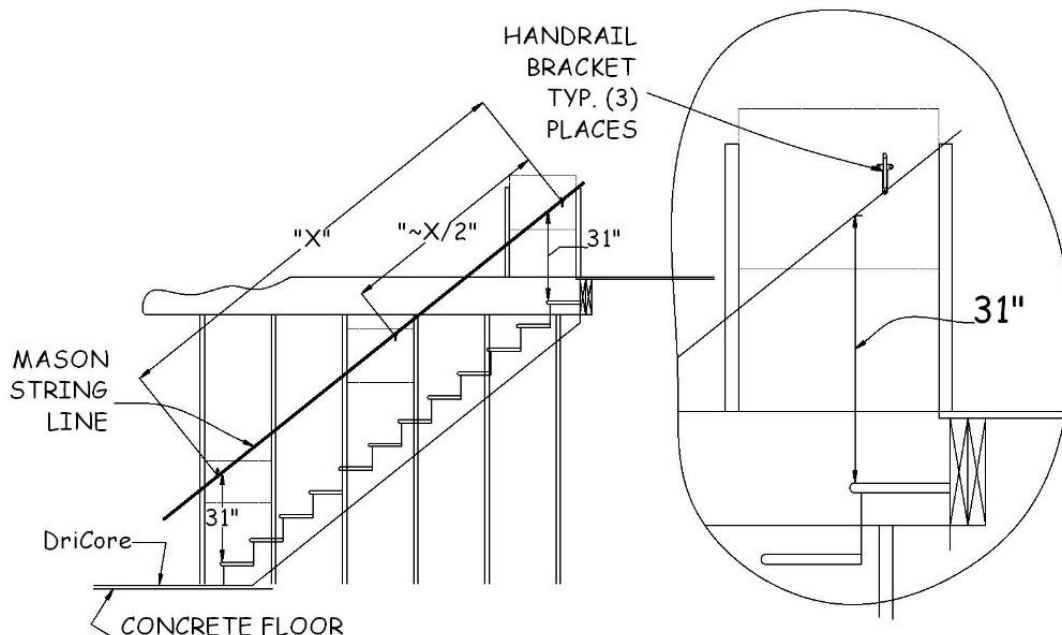

Figure 16-2. Handrail Bracket Installation.
5. Along this line, first mark the wall for locations of the top and bottom handrail brackets. Locate the top bracket 10-12" from the top end of the stairway wall and the bottom bracket 10-12" from the bottom end of the stairway wall, or from door trim if present (see Figure 16-2). Check for blocking or stud with an 8d or finishing nail.
13. Set the skirtboard on saw horses with the unfinished side up (any tear out from the circular saw will then be on the unfinished side). Lay the template on the board and orient it to establish the proper cut orientation at the top of the skirtboard. If the top angle of the template is correct, use it to mark for cutting. If not, use the adjustable bevel angle established above. This will establish Point 1 (see Figure 16-2).